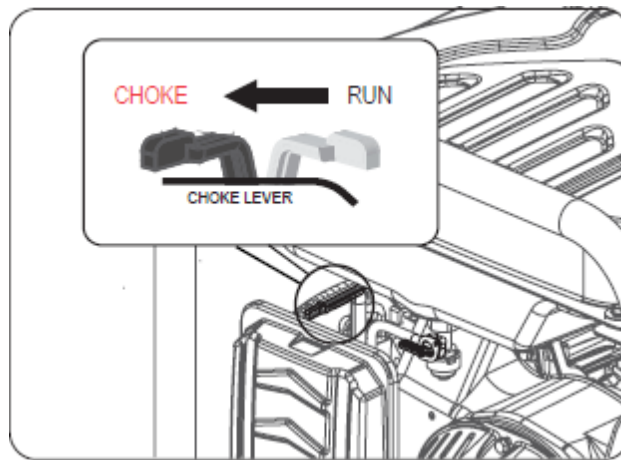

Fig. 7
- Slide the choke lever to the "Choke" position (See Fig. 7). **SKIP THIS IF THE ENGINE IS WARM OR HOT.**